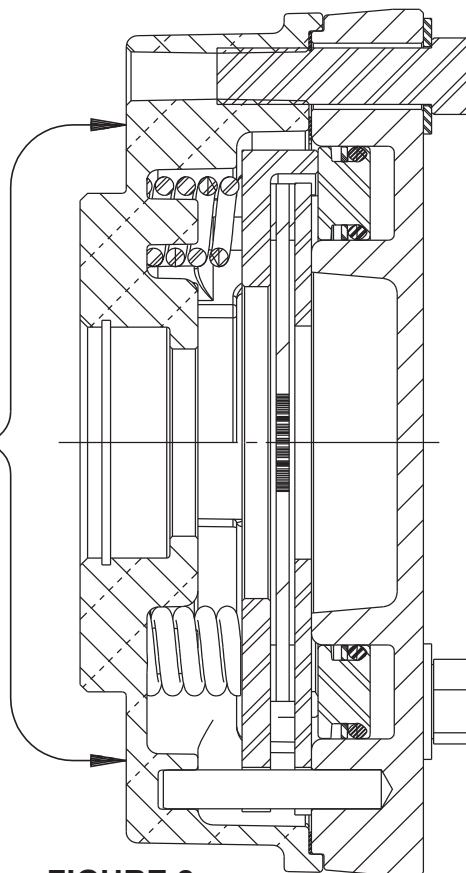

FIGURE 2
Pressure plate is under spring tension of approximately 454 kgf (1000 lb). The two cap screws must be loosened evenly to relieve this force. If a hydraulic press is available, 1361 kgf (3000 lb) maximum, the pressure plate can be held in position while removing the cap screws. Be sure to support the outer area of cover (15) as shown in Figure 2.
2. Remove case seal (4) from cover (15).
3. Remove piston (7) from pressure plate (3).
4. Remove o-ring (5), back-up ring (6), o-ring (8) and back-up ring (9) from piston (7).
5. Remove stack assembly, consisting of stator disc (10), rotor disc (11) and return plate (12) from cover (15).
6. Remove dowel pins (14) and springs (13).